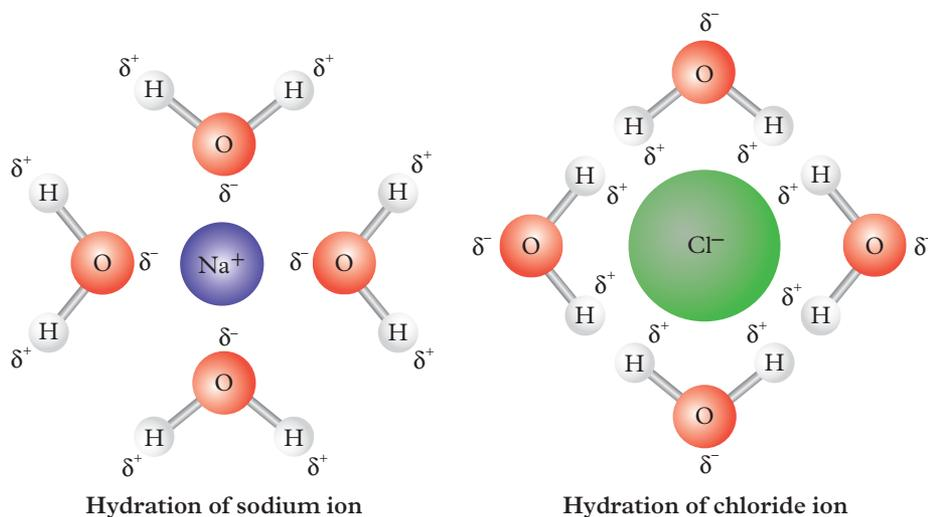

FIGURE 3 The Na^+ cation and Cl^- anion are attracted to water molecules and become hydrated.
- 4 ions become hydrated and form **ion–dipole attractions** with water (Figure 3).